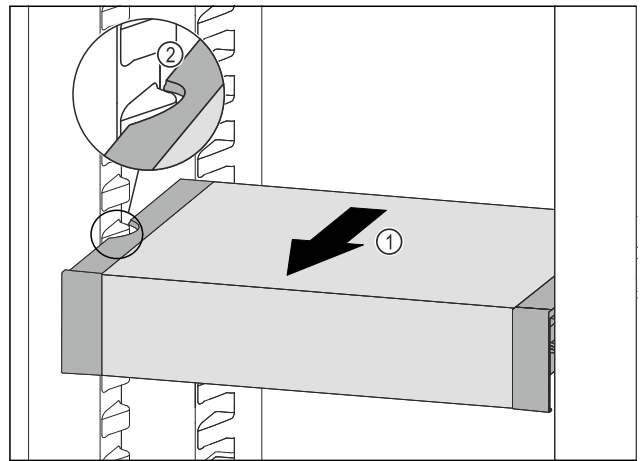

Fig. 137
- Pull VarioSafe forwards Fig. 137 (1) until the recesses in the side of the VarioSafe are at the level of the support rib in the fridge section. Fig. 137 (2)